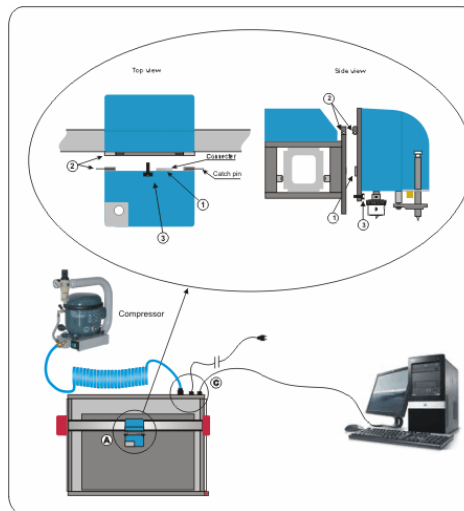

Figure 2 – Mounting the toolhead.
- Take off the protective band upon the rubber gasket – figure 2, situation „A”, step 1;
- Set the cotters in the holes of the hinges and with the help of a flat screw-driver tighten the hinges of the carriage - figure 2, situation „A”, step 2;
- Embed the toolhead to the carriage with the fixing screw. - figure 2, situation „A”, step 3.
After you have fulfilled the above requirements, connect the lead cable to the electric grid 220-240 V, 50/60 Hz – figure 2, situation „C”.